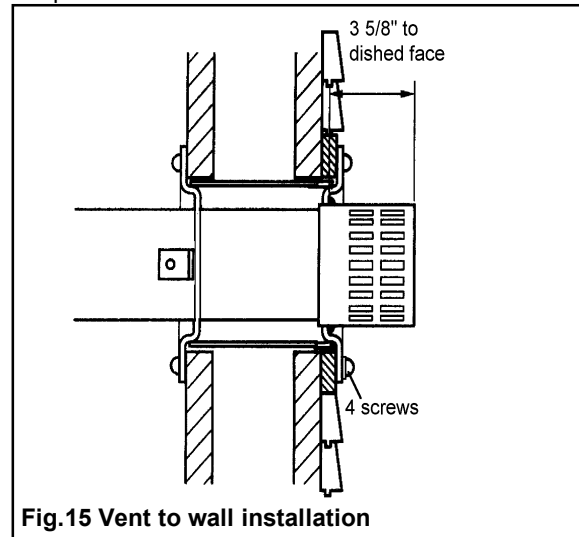

Fig.15 Vent to wall installation
(see fig. 15). Remove any temporary wedges. If possible while still maintaining a sound connection to the appliance, slope the terminal very slightly down towards the outside so that any rain will run away from the appliance. **The terminal should never slope down into the room. This could cause water to accumulate in the appliance.** Mark the wall plate fixing holes on the wall. Remove the plate.
- 10.13 Replace the wall plate locating it firmly inside the shield tube. Make sure that the slots in the terminal end cap are outside the wall plate (see figure 15).
- 10.14 Line up the screw holes. Start the mounting screws. Apply a clear silicone rubber sealant under the edges of the wall plate and tighten the screws. Apply a bead of silicone sealant around the vent tube where it exits the wall plate (see figure 15).